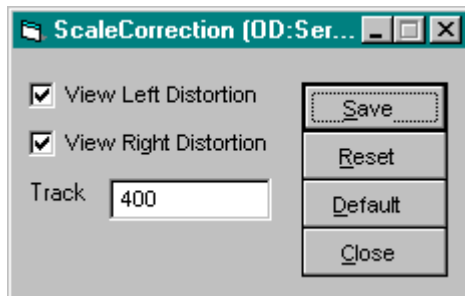

Figure 17: *ScaleCorrection* Dialog box
- In the WITE32 software Version 3.00, the Scale Correction can be done on a user-specified track. This is different from Version 2.70, where the correction parameters are measured only in the reset position of the spinstand. To specify the track, use the new *Track* text box added to the *ScaleCorrection* dialog box (see Figure 17).